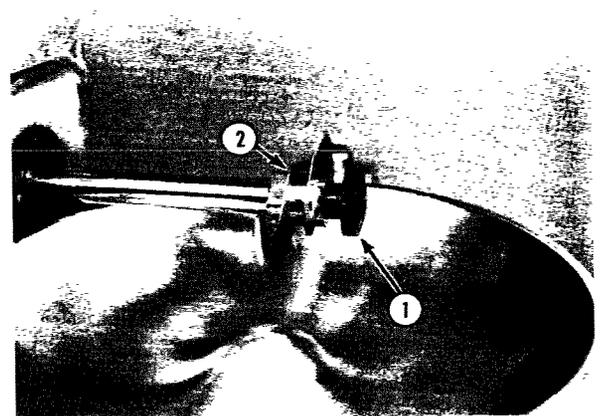

Fig. 2-2
- (1) Raise the bowl cover.
- (2) Remove the fluted knob (1, Fig. 2-2) and slide the knife assembly (2, Fig. 2-2) off the shaft.
- (3) Remove the bowl.
- (2) Remove the fluted knob (1, Fig. 2-2).
- (3) Slide the knife assembly (2, Fig. 2-2) off the shaft.